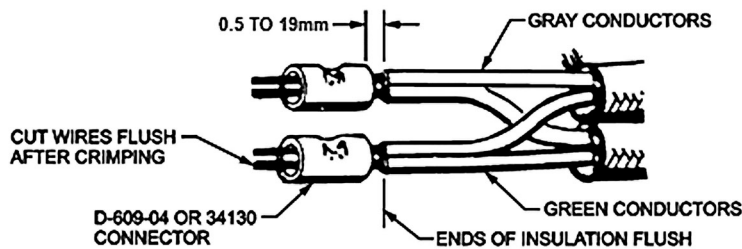

Figure 16-16 Butt Splicing Procedure
29. Install thermocouple splices as detailed in Figure 16-16.
- Do not splice thermocouple leads except where specifically indicated, and then only with approved splices such as shown in Figure 16-16.